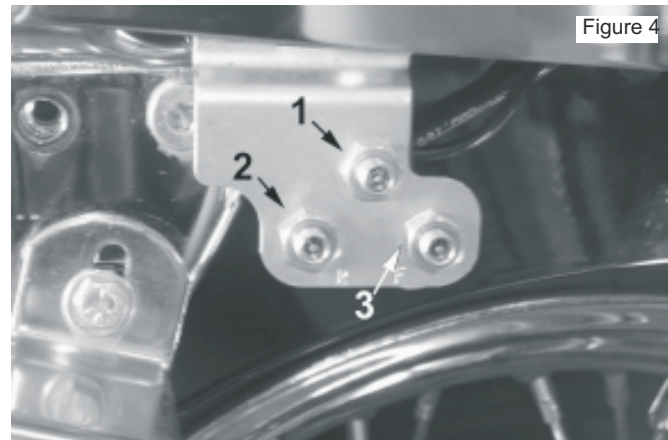

Figure 4
4. Replace the stock air valve mounting bracket with the new one provided. You will need to remove and re-use the existing air valve(s) in the new bracket, in addition to the new valve provided. See figure 4 for recommended orientation of air valves. Route the airlines (2) from each shock between the fender and strut, to the area under the seat. Make sure the lines won't be pinched, exposed to excessive heat or contact any moving parts. It may be necessary to trim excess airline to avoid these circumstances, however it is recommended that you wait until the entire system has been connected before trimming any airlines. This insures sufficient airline lengths and clearances.